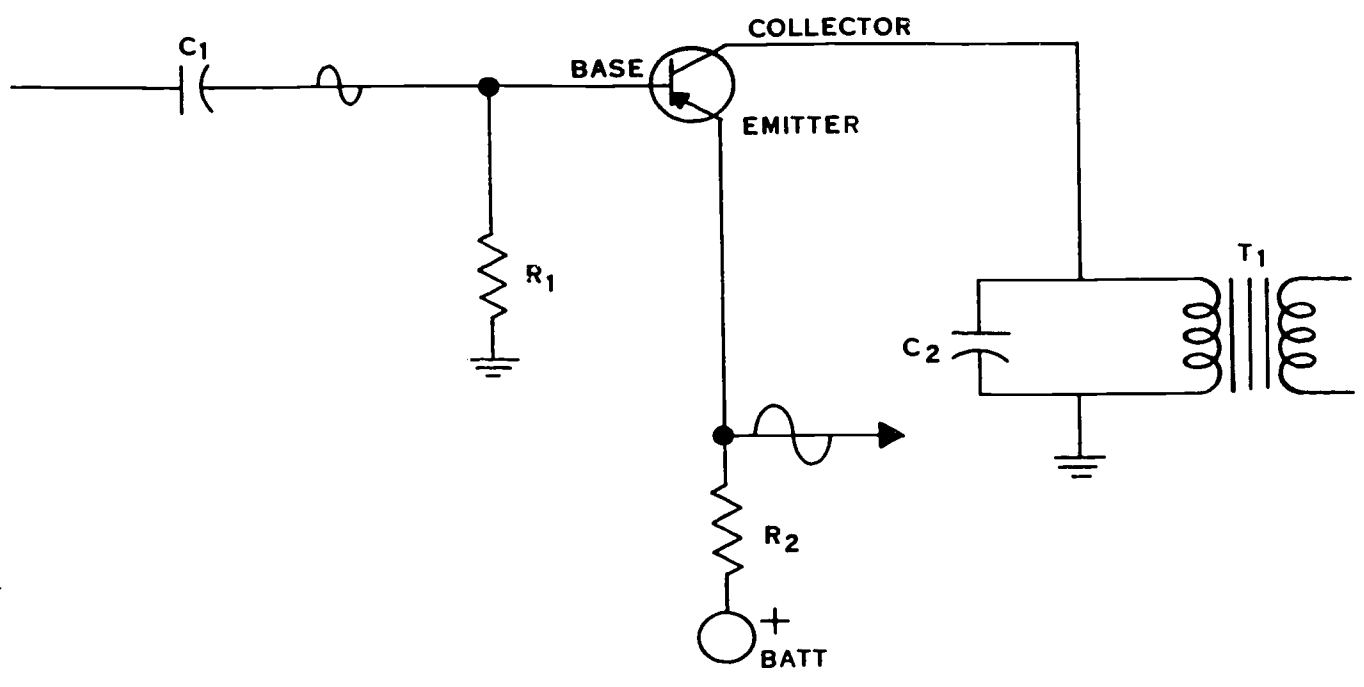
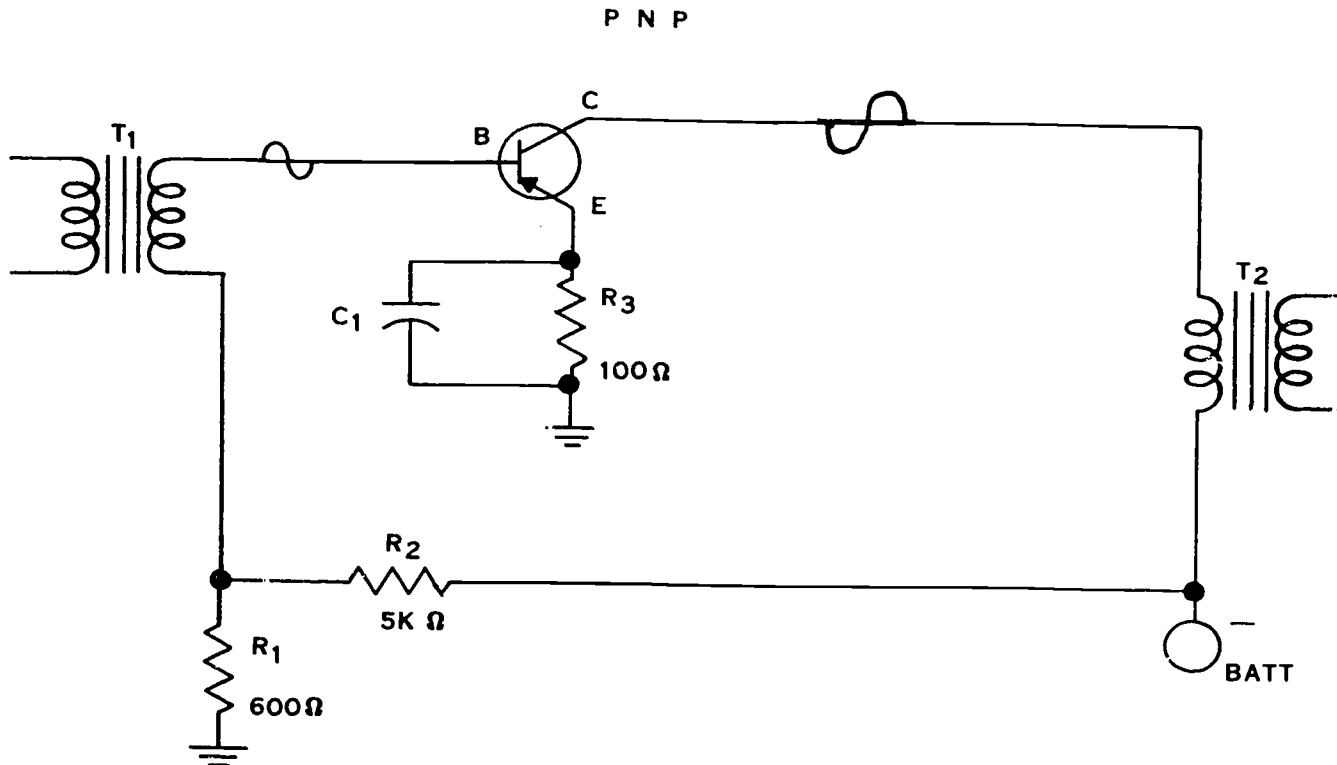

Figure 5-5. Common-collector amplifier schematic diagram.
Figure 5-6. Schematic diagram of a transistor class A amplifier.
Common-Collector Amplifiers. Common-collector amplifier characteristics are low voltage and power gain and moderate gain in current. Therefore, this is used only in special circuits. For instance, it is useful as an impedance matching unit. Figure 5-5 shows the collector connected to ground and the emitter with a positive potential when compared to the collector. Likewise, the input signal from the preceding stage is applied to the base. This amplifier
stage compares with the common-base amplifier in that it has no reversal of phase between the amplifier input and output. It is easily seen, too, that the output signal can be taken from the emitter. A negative input signal at the base of the transistor of figure 5-5 results in an increase in current at resistor R_2 . Consequently, the voltage drop at the resistor is greater following the signal application than it has been before the employment of negative signal. Accordingly, the increased voltage at the resistor results in a more negative output signal. Thus, an emitter voltage change follows directly the base voltage change. We can see the basis, then, for referring to the transistor as an emitter-follower amplifier.
Typical Class A Amplifiers. Figure 5-6 is a schematic diagram of a class A amplifier stage. Collector current will be in this transistor continuously. A preceding amplifier, such as a vacuum tube or a transistor, furnishes the input signal through a coupling transformer. The output signal from our illustrated amplifier is coupled by a transformer to the succeeding device. Series resistors R_1 and R_2 provide bias voltage, while R_3 provides stability and keeps the stage operating within its normal linear characteristic. Any change in the R_3 resistance will result in a distorted output signal, although the input signal is normal. In the same manner, a
Trouble Isolation. Return to figure 5-6 and assume that the output signal is distorted. Since a short-circuited capacitor in an amplifier circuit or an open-biasing resistor could cause such a change, capacitor C_1 and resistor R_1 are probable defects for this trouble symptom. An open resistor R_1 in figure 5-5 likewise could distort the signal at R_2 .
If you were using a clickset to trace the signal in a transmit circuit that included the circuit of figure 5-5 and received a noisy (abnormal harmonic) sound at T_1 , capacitor C_2 may be suspected. An open capacitor often results in noise at the circuit output.
2. What is a probable defect in the circuit of figure 5-5 if a fuse in the secondary of T_1 is blown?